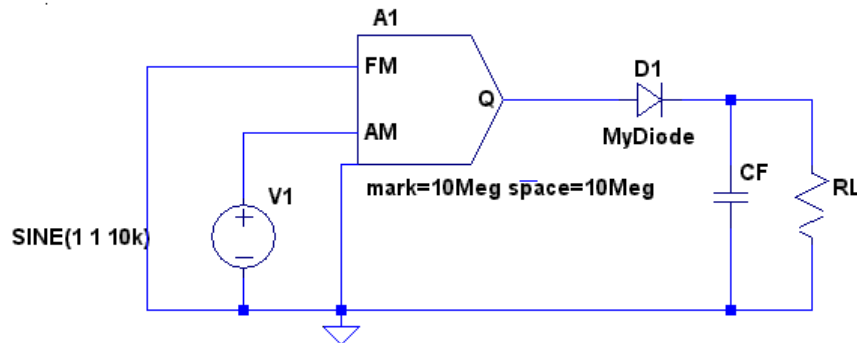

Figure 6: Simulation circuit of diode detector
Assume an AM signal is received with an audio signal carried by a 10MHz radio signal. Use the diode model obtained in Lab 1. You will build an envelop detector in LTspice as shown in Figure 6 to recover the audio signal.
1. Build two circuits in LTspice as shown in Figure 6.